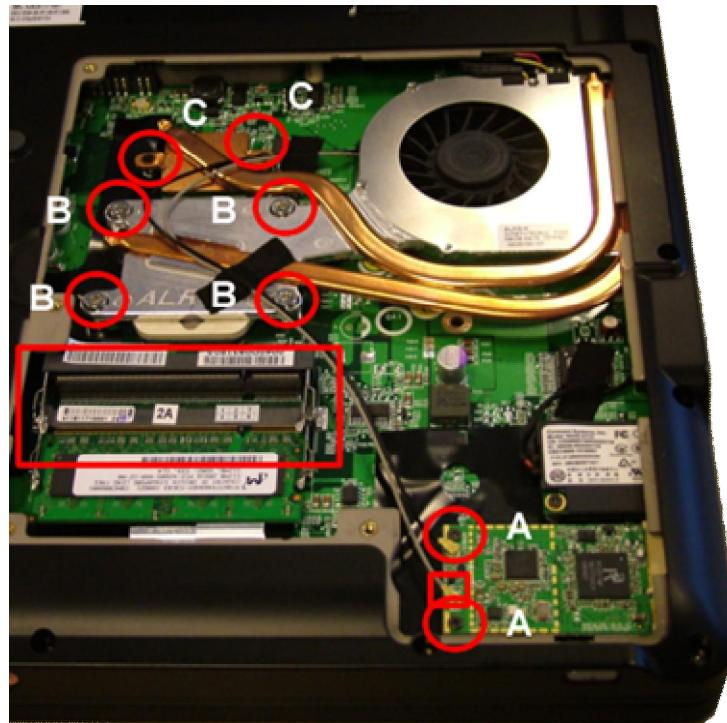

Fig. 4 Removing the memory module(s), mini-PCI and heatsink.
2. Disconnect the two antenna cable (black=main, grey=aux), indicated by the little red square in Fig. 4.
3. Remove the two screws (2xA) from the card (as shown in Fig. 4).
3. Remove the 4 CPU screws (4xB) and 2 chipsets screws (2xC) from the heatsink (as shown in Fig. 4).
2. Release the wireless antenna cable (see Fig. 4).